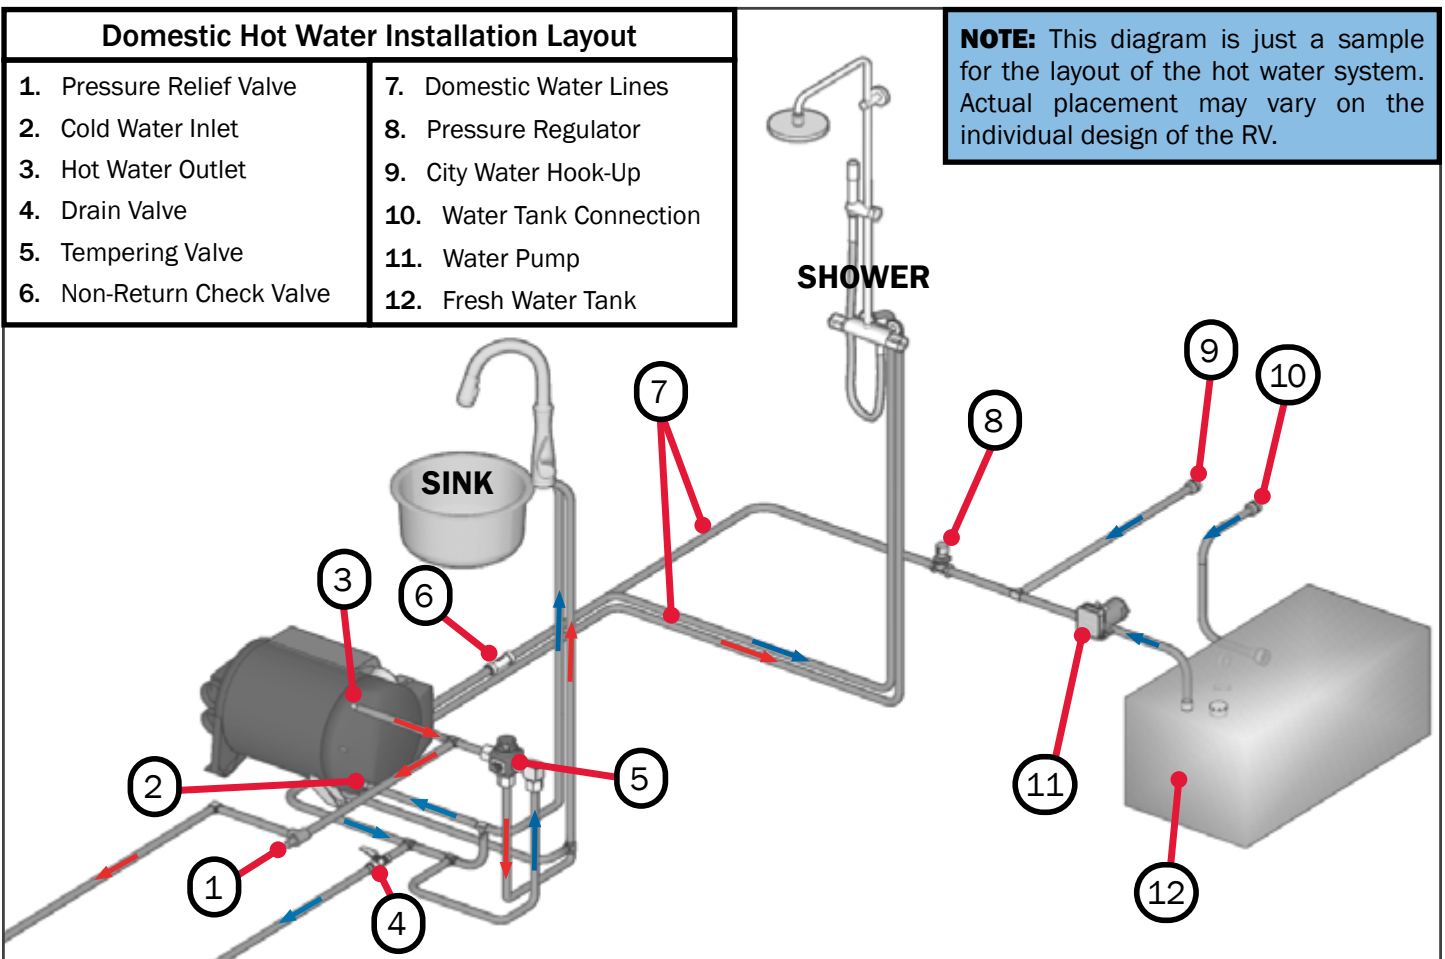

Figure 16
- The non-return valve (#6 Figure 16) must be installed in the proper direction: